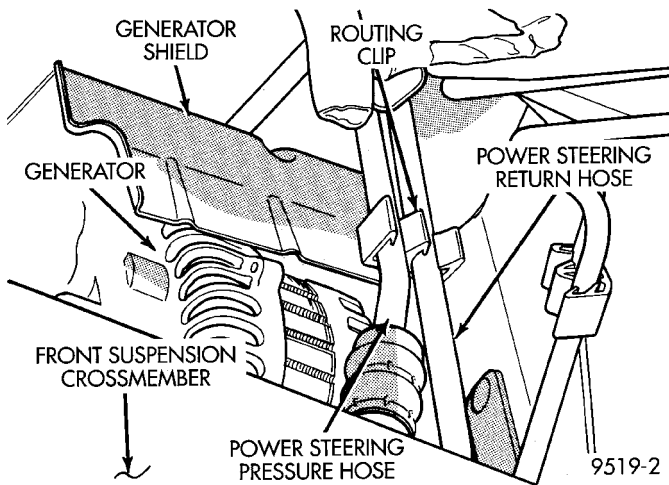

Fig. 16 Power Steering Hose Routing Clip At Generator Shield
(3) Remove power steering return hose from routing clip on generator shield (Fig. 16).
- (6) Install power steering return hose on routing clip at generator shield (Fig. 16).
- (7) Lower vehicle.
- (8) Start the engine and let run for a few seconds. Then turn the engine off.
- (9) Add fluid if necessary. Repeat the above procedure until the fluid level remains constant after running the engine.
- (10) Raise front wheels of vehicle off the ground.
- (11) Start the engine. Slowly turn the steering wheel right and left, lightly contacting the wheel stops. Then turn the engine off.
- (12) Add power steering fluid if necessary.
- (13) Lower the vehicle and turn the steering wheel slowly from lock to lock.
- (14) Stop the engine. Check the fluid level and refill as required.
- (15) If the fluid is extremely foamy, allow the vehicle to stand a few minutes and repeat the above procedure.
- (16) After hose is installed, check for leaks at all hose connections.